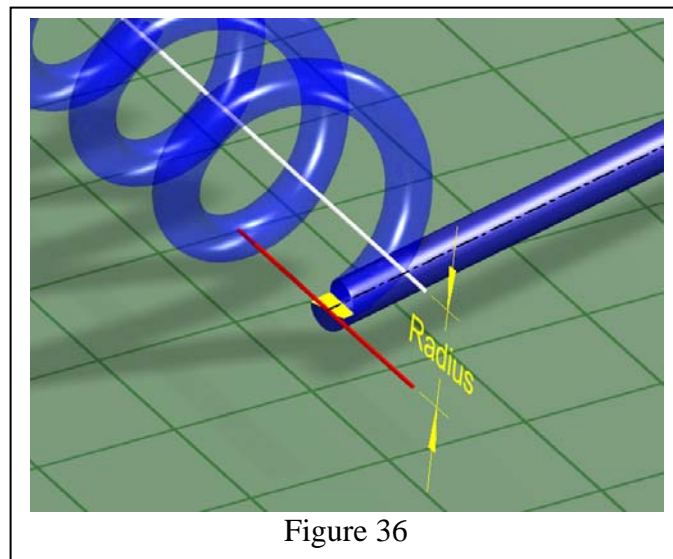

Figure 36
*Radius* is the bend radius as measured from the bend face in the World Z direction. In Figure 36, the bend face is yellow and the bend line is red. (The *bend axis* is an imaginary straight line, colored white in the illustration, that lies at the center of the bend and is parallel to the bend line.)